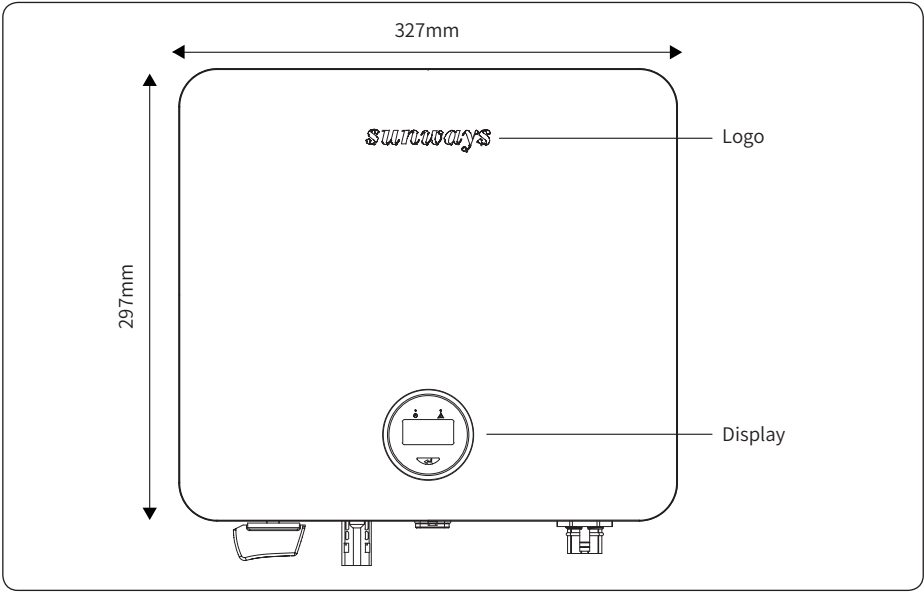

Figure 3-2 Front view
3.2.1 Inverter front view, as shown in Figure 3-2: